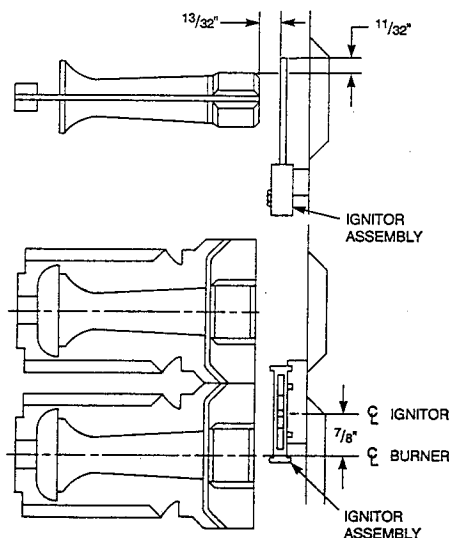

**Fig. 9—Position of Ignitor to Burner**
**NOTE:** Be very careful when removing the burner assembly to avoid breaking the ignitor. See Figure 9 for the correct ignitor location.